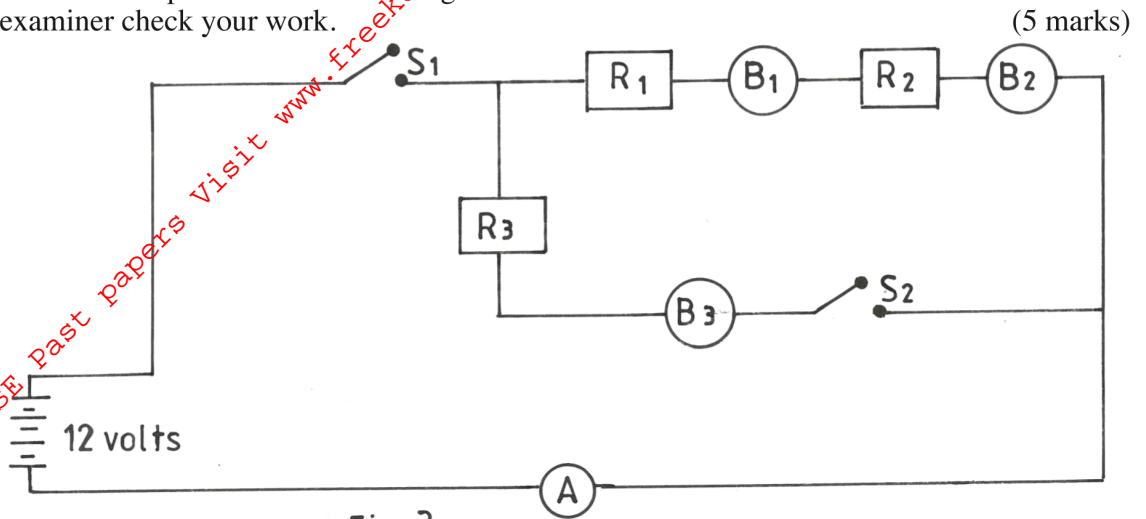

Fig. 3
- (a) Connect the components as shown in figure 3. Let examiner check your work.